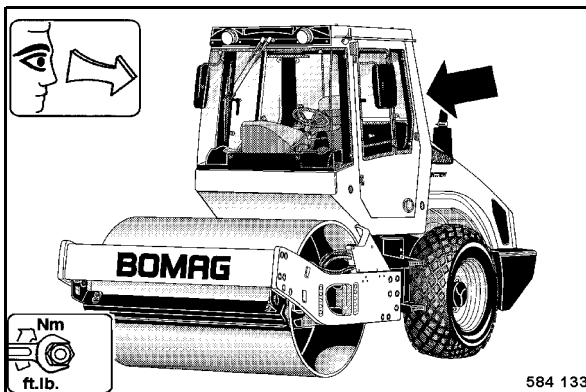

Fig. 179
- Inspect the cabin, especially the ROPS (Fig. 179), for cracks, corrosion, damage and missing fastening parts.